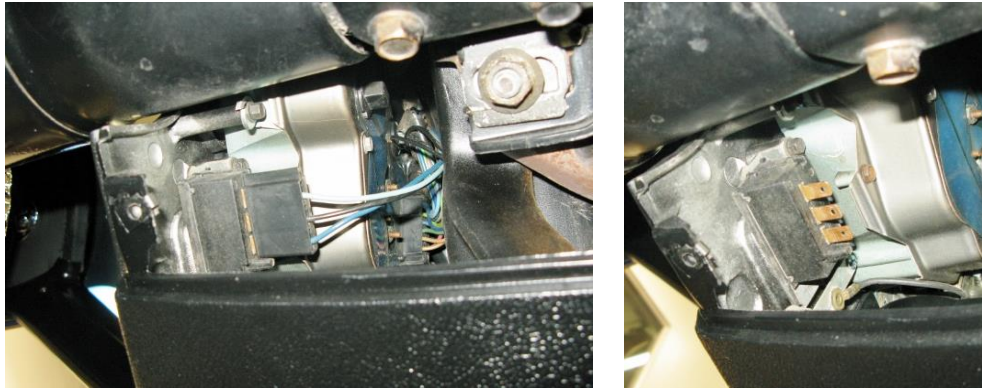

Figure 3 - Remove Stock Wiper Switch & Connector
5. The Selecta-Speed switch will replace the stock switch. Remove the lower column cover from the dash. Remove the stock wiper switch from the dash and remove the connector (Figure 3 on the next page). The OEM fasteners will be reused. Tie up the original wiring under the dash, if desired.